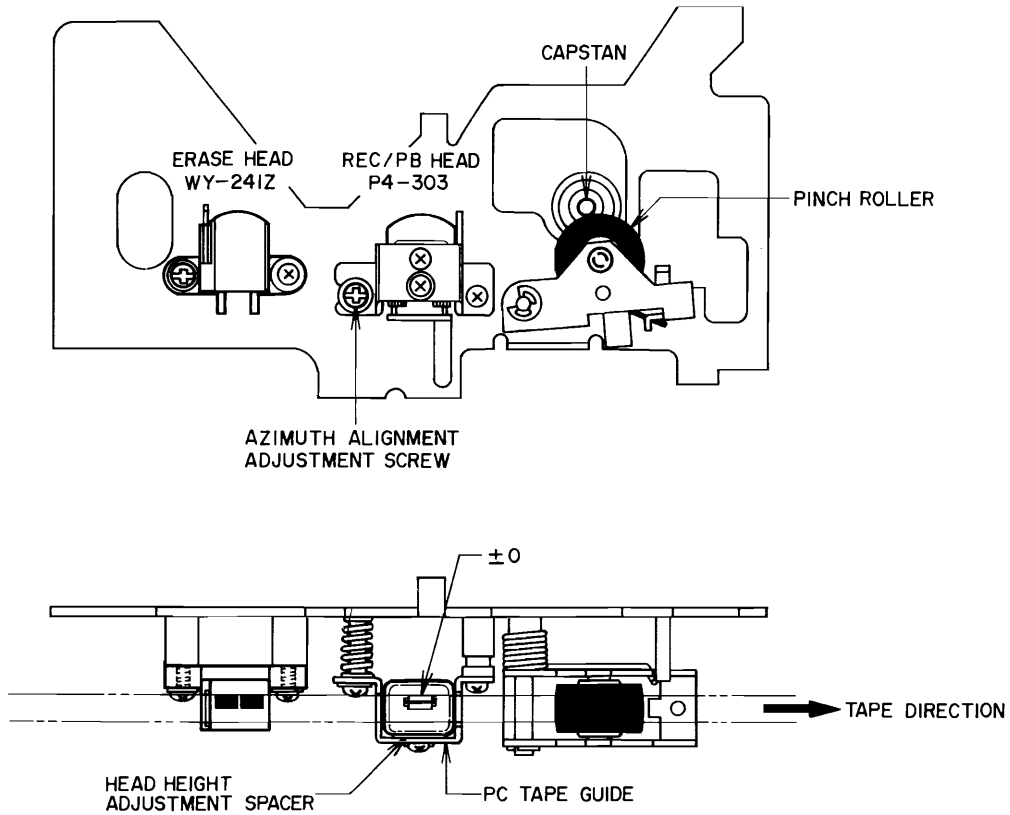

Fig. 8
1. RECORDING/PLAYBACK HEAD HEIGHT ADJUSTMENT (Refer to Fig. 8)
2. RECORDING/PLAYBACK HEAD AZIMUTH ALIGNMENT ADJUSTMENT (Refer to Figs. 8, 9)